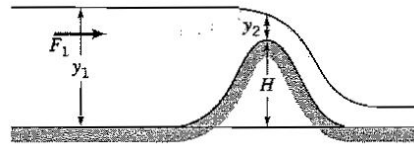

Figure P10.12
10.12 Water in a two-dimensional channel flows smoothly over a submerged obstacle of height H as shown in Figure P10.12. The water depth at the peak of the obstacle is Y_2 ,